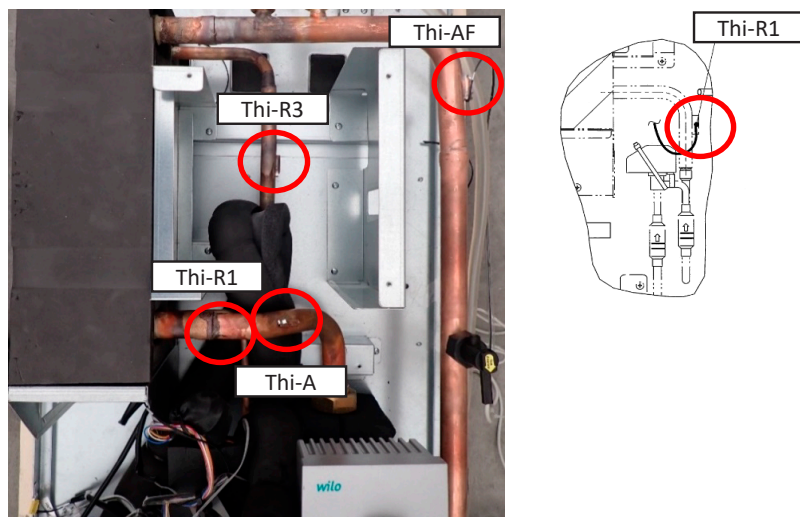

Fig21-2. Removing temperature sensors
- (b) Pull the temperature sensor fixing clip and remove it. (○ mark, Fig.21-2)